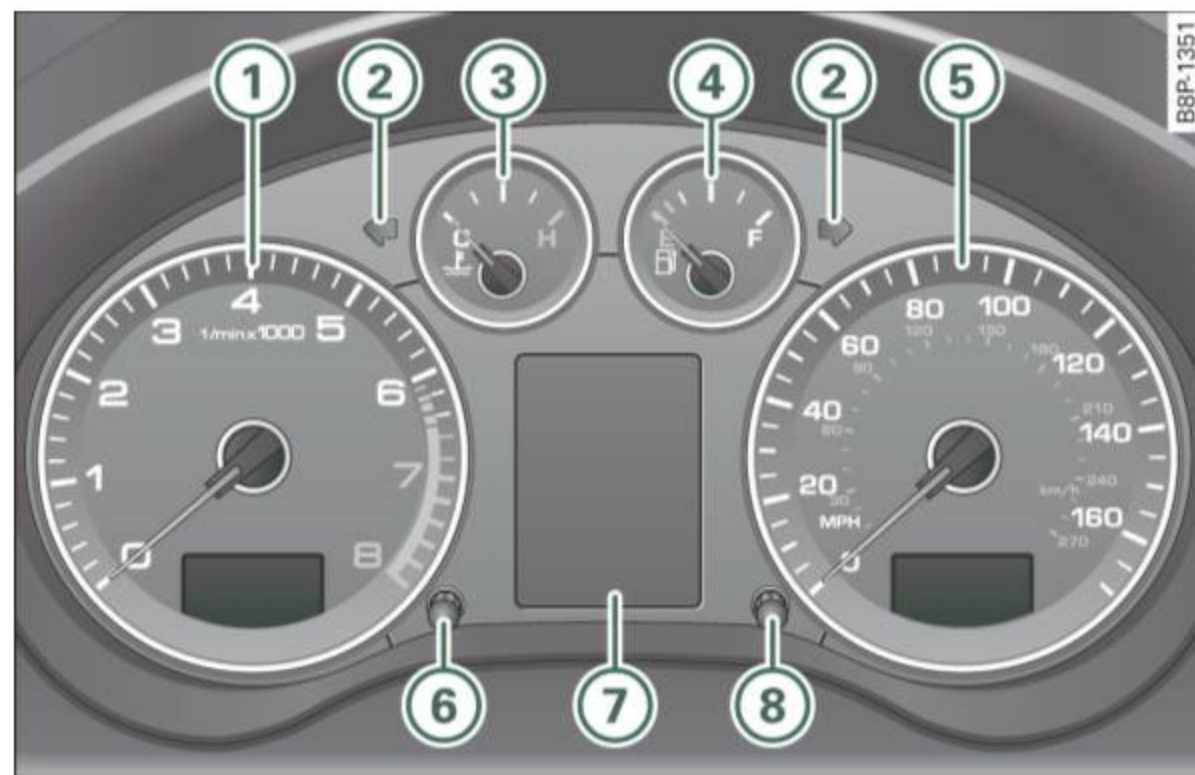

Fig. 2 Overview of the instrument cluster
The tachometer ① ⇒ fig. 2 is the left one of the two large clock-type displays.
The tachometer needle ⇒ *page 8, fig. 2* ① should not move into the red range. If it does, then only for a very short period of time. You could damage your engine by driving at high RPM!
The engine coolant gauge ③ ⇒ *page 8, fig. 2* only works when the ignition is on. To prevent damage to your engine, please note the following important points: ▶
- When the ignition is turned off, the odometer reading and the digital clock with date display can be switched on for about 30 seconds by pressing the knob ⇒ *page 8, fig. 2* . ■